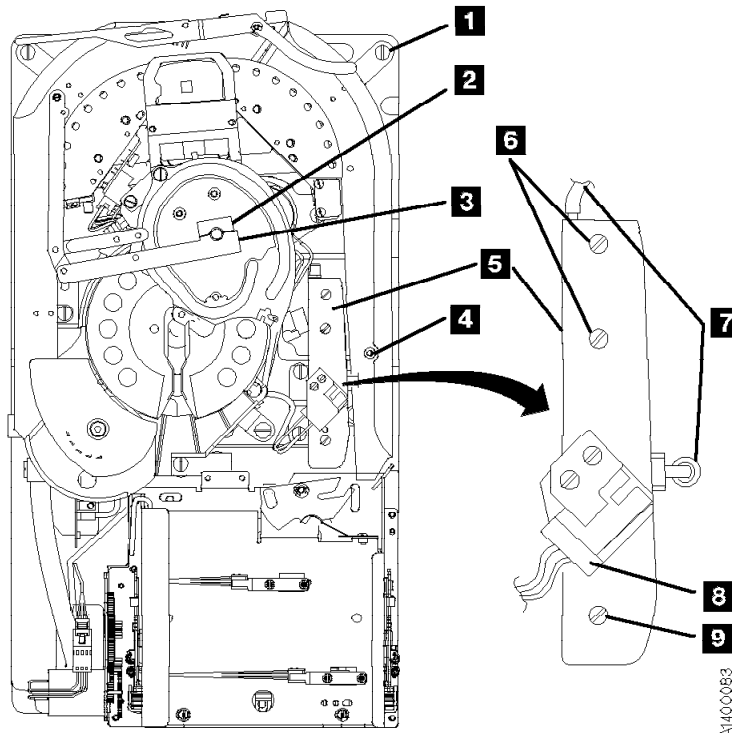

Figure 326. Decoupler
4. See Figure 326. Position the pantocam arm **3** so the arm is out of the way of the decoupler **5**.